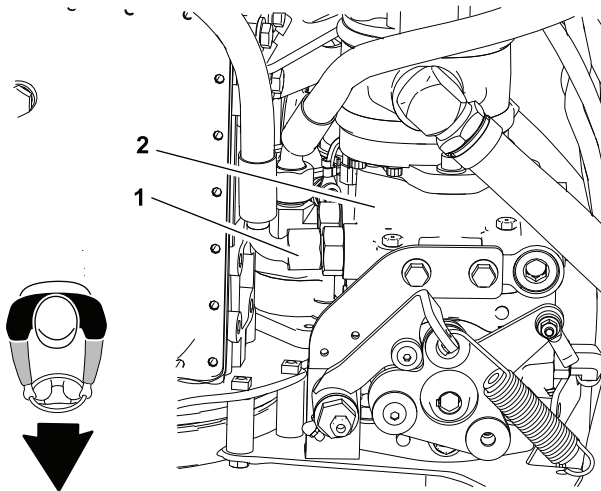

Figure 38
6. Disconnect hose from the lower hydraulic fitting on the engine side of the hydrostat (Figure 38).